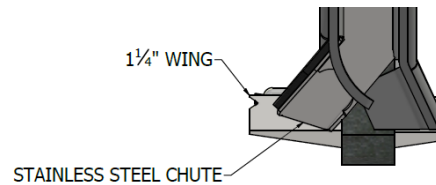

Figure 2: Left opener from the back
- 1) Bolt openers to shank using the supplied $\frac{3}{8}$ " X $2\frac{1}{4}$ " carriage bolts and lock nuts. Use the top and bottom holes on the opener and shank to mount opener. Install the provided paralink shim between the opener and the shank. Install the openers with the stainless steel chute pointed to the center of the drill (see Figure 2).